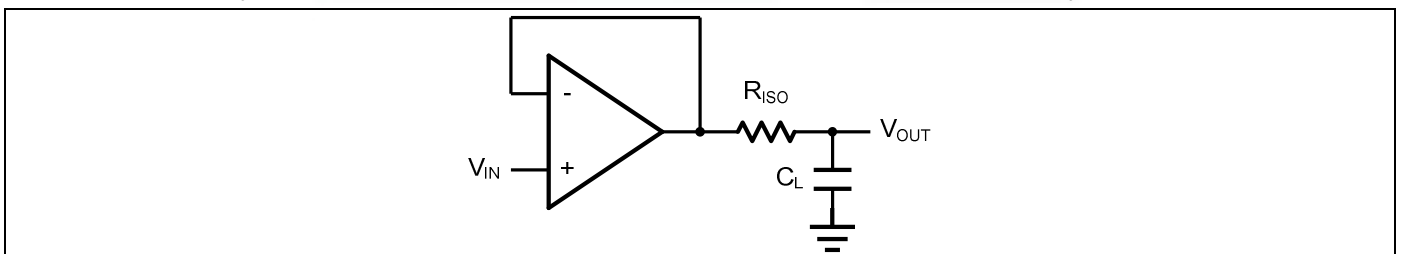
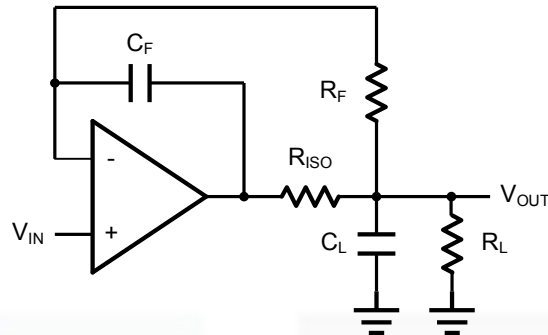

Figure 2. Indirectly Driving a Capacitive Load Using Isolation Resistor
Figure 3. Indirectly Driving a Capacitive Load with DC Accuracy
The GS833x family is optimized for bandwidth and speed, not for driving capacitive loads. Output capacitance will create a pole in the amplifier's feedback path, leading to excessive peaking and potential oscillation. If dealing with load capacitance is a requirement of the application, the two strategies to consider are (1) using a small resistor in series with the amplifier's output and the load capacitance and (2) reducing the bandwidth of the amplifier's feedback loop by increasing the overall noise gain. Figure 2. shows a unity gain follower using the series resistor strategy. The resistor isolates the output from the capacitance and, more importantly, creates a zero in the feedback path that compensates for the pole created by the output capacitance.
The circuit in Figure 3 is an improvement to the one in Figure 2. R_F provides the DC accuracy by feed-forward the V_{IN} to R_L . C_F